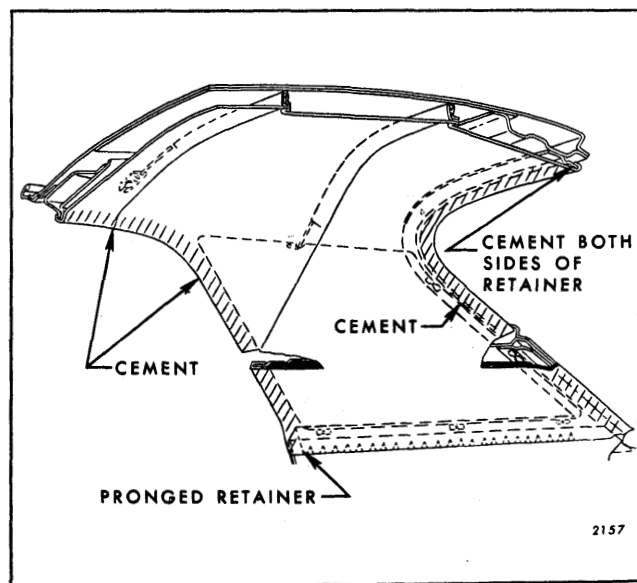

Fig. 4-5—Headlining Installation at Roof Extension
trim stick in the roof extension area (See Fig. 4-2). The upper quarter trim is retained by clips (See Fig. 4-2). On "E" Body Styles the upper quarter trim is further retained by cementing the forward edge to the side roof rail. On styles where the headlining covers the entire roof extension area, the headlining is retained along the rear compartment shelf by a pronged retainer (See Fig. 4-5).
2. Apply approved trim cement to headlining attaching surface at windshield, side roof rail and back window or back body opening. On styles that utilize pinchweld finishing lace be certain cement is applied to both sides of retainer at windshield and back window or back body opening. (View "E", Fig. 4-1 and Fig. 4-5)